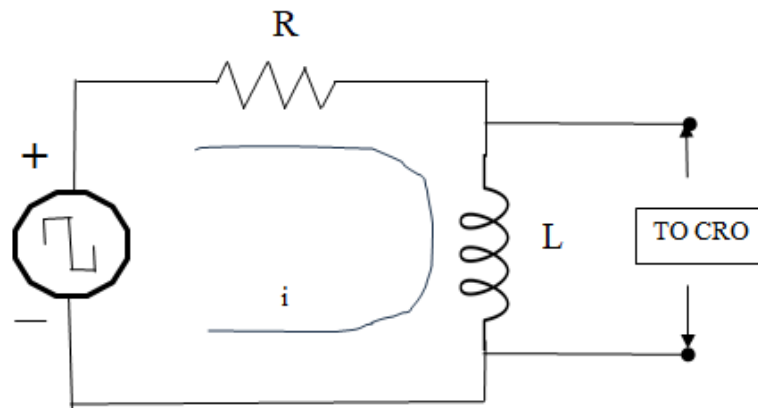

Fig 5.4
To verify our analysis, in the circuit of Figure 5.4, In order to reflect the notion of a time-varying circuit with a switch, the DC voltage source has been replaced with a rectangular pulse voltage source. The waveform shown tracks the inductor's voltage. (Which is exact the replica of the waveform of current flowing through the inductor, which we can find out by using Ohm's law as ( $i = V/XL$ ))
2. Connect the circuit as shown in figure 5.4 on breadboard.